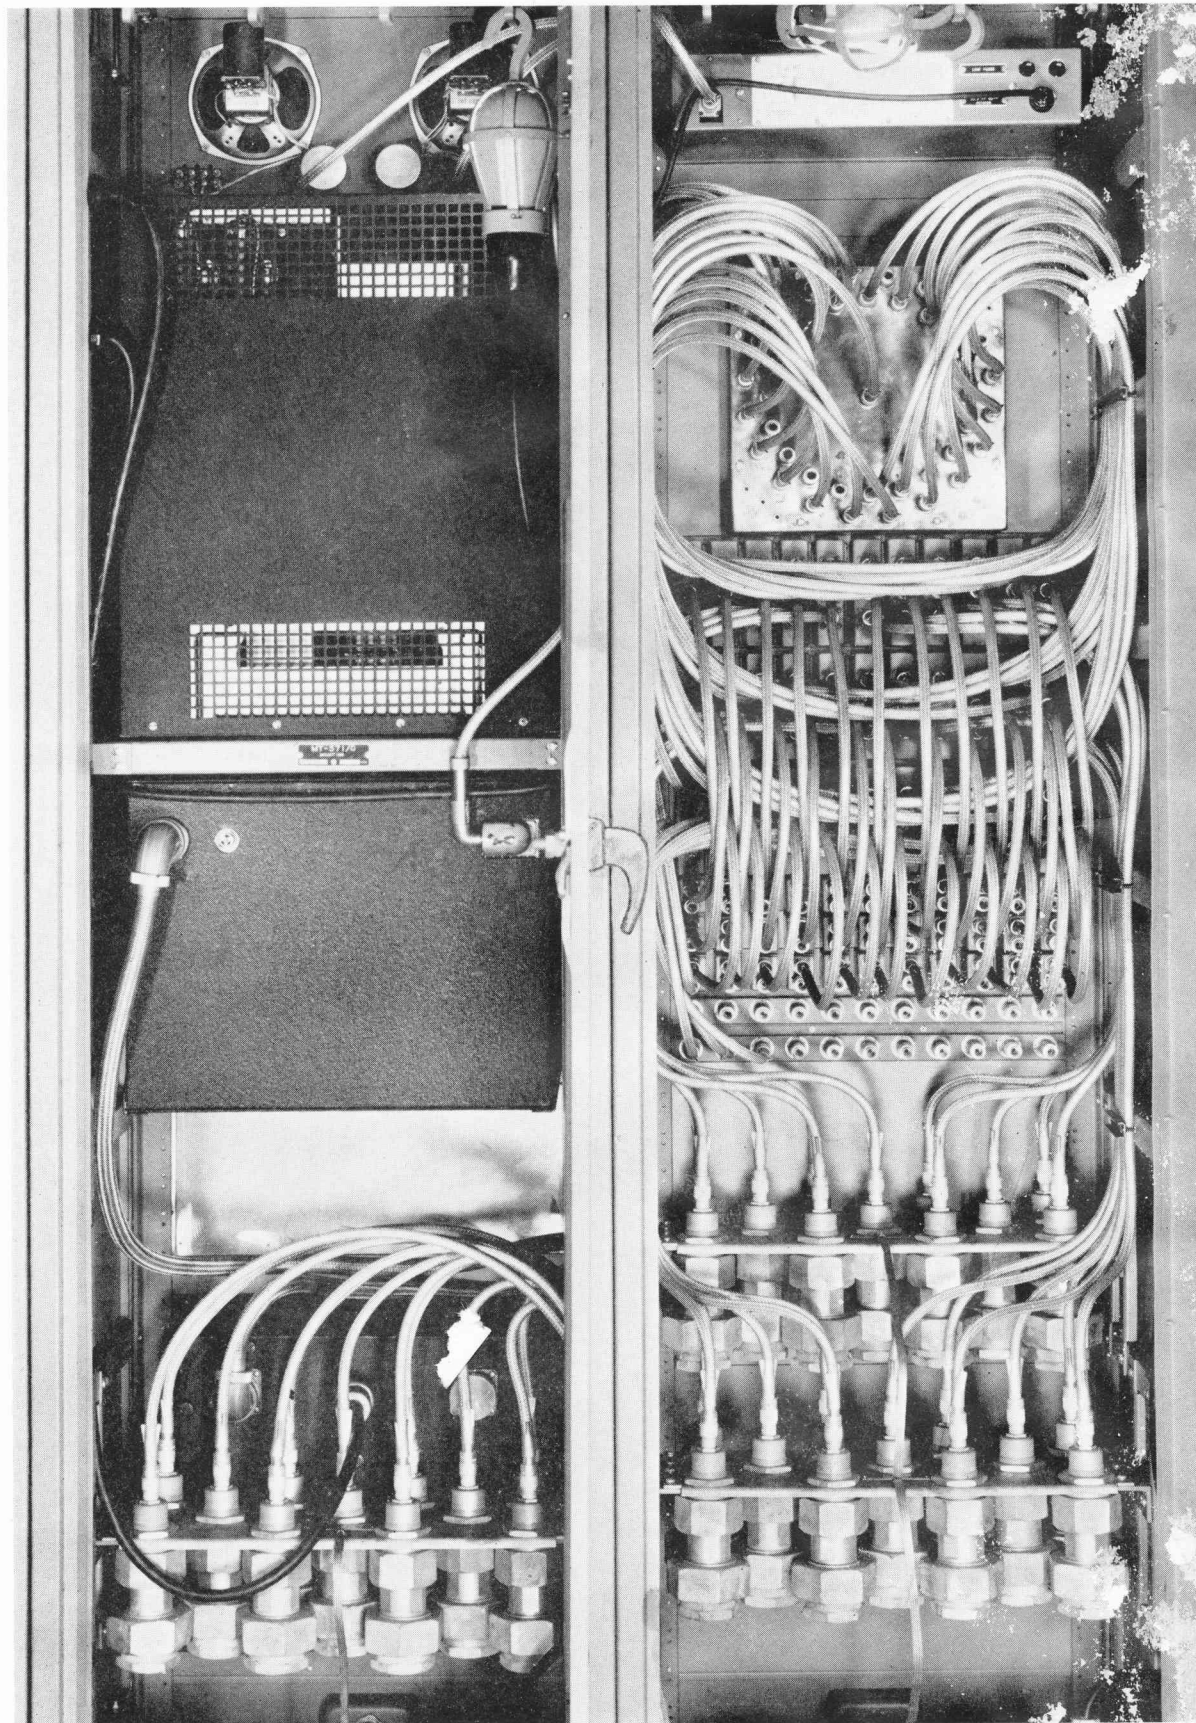

Figure 2-7. Signal Distribution Unit Type A, Rear View Showing Connector-Adapters Navy Type CIA 491652 Installed in the Cabinets
a. **GENERAL.**—This section includes instructions relative to installation of Types A, B, and C Units of the Signal Distribution System. Since this equipment is quite flexible and may be varied in its application, the instructions are based on a typical installation only. The installing activity will find it necessary to depart from the procedures outlined herein in almost all cases. It is, however, desirable to maintain standardization throughout all Naval installations in so far as practical in order that installations at all stations will be similar, except for actual quantities of RF and AF components. A standard wiring of the Signal Distribution Unit is to be fabricated by the installing activity as shown in figures 2-7 and 2-10. The installing activity is not to depart from the standard arrangement of components shown in figures 2-31, 2-32, and 2-33 except upon specific authorization from BuShips.